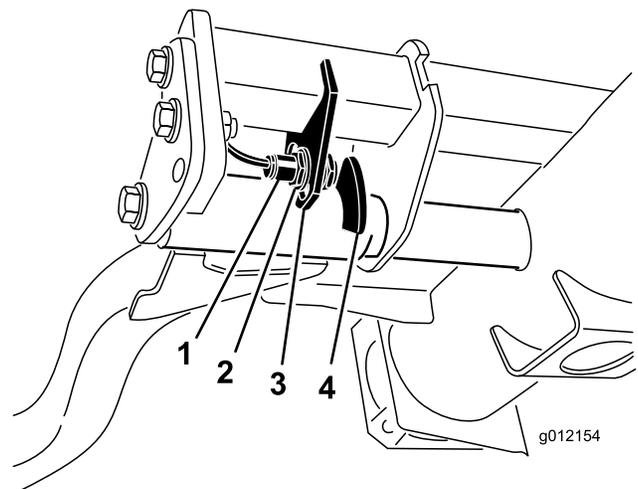

Figure 34
2. The lift arm switch is located underneath the hydraulic tank behind the front right lift arm (Figure 34).
3. Loosen the switch mounting screws (Figure 34) and move the switch down to increase the lift-arm turnaround height or move the switch up to decrease the lift-arm turnaround height. Tighten the mounting screws.